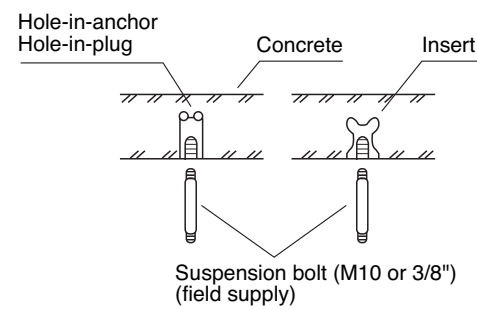

Fig. 3-75
- (2) Drill holes at the 4 points indicated on the full-scale diagram.
- (3) Depending on the ceiling type:
- (a) Insert suspension bolts as shown in Fig. 3-75.